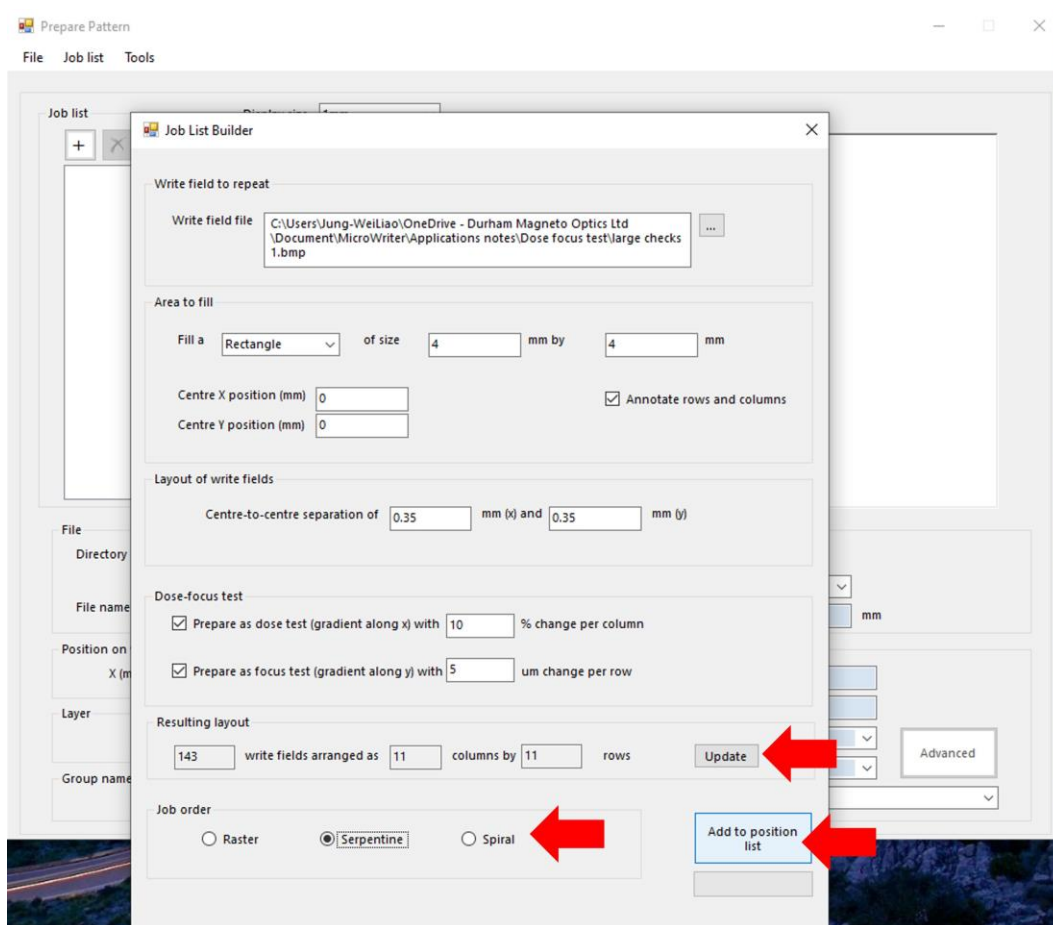

Figure 8 Update, job order, and adding the jobs to the position list.
- k. Click “Update” to know in advance how many total numbers of write fields, columns, and rows in the resulting layout (Figure 8).
- l. Choose the job order either “Raster” or “Serpentine.” (Figure 8) For running the same job list, running with the serpentine order reduces the exposure time.
- m. Click the “Add to position list” button (Figure 8).